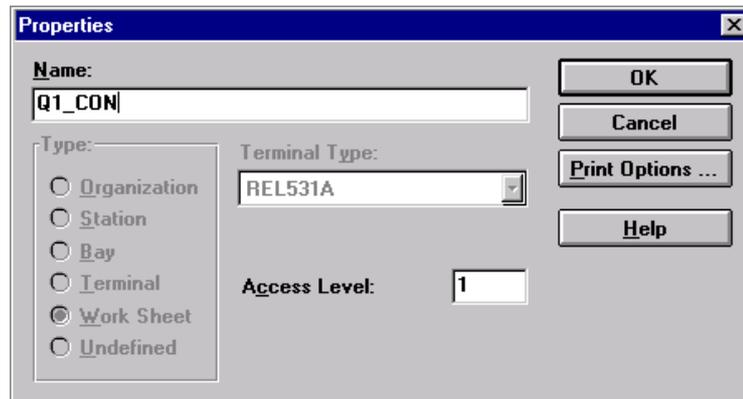

Fig. 50 The Properties dialog box, which is used to assign a page layout.
- 2 Double-click on the right mouse button, and the Properties dialogue box appears, see Fig. 50. Or you open the properties dialogue by highlighting a work sheet, and then select 'Object Properties' in the Edit menu.**